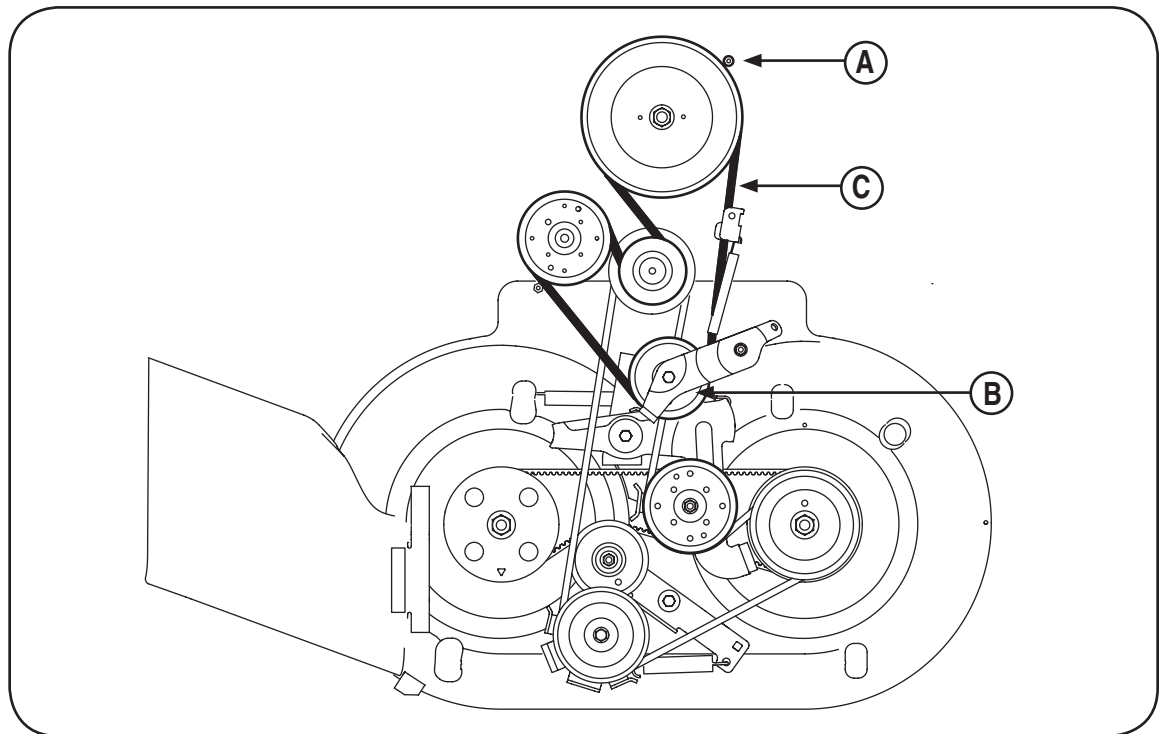

Figure 5-14: Top view of the drive belt orientation.
4. Loosen belt keeper (A). The belt keeper is attached to the underside of the mower frame, Figure 5-14.
5. Loosen the idler pulley (B) by loosening bolt and nut, Figure 5-14.
6. Remove belt (C) from around pulleys, Figure 5-14.